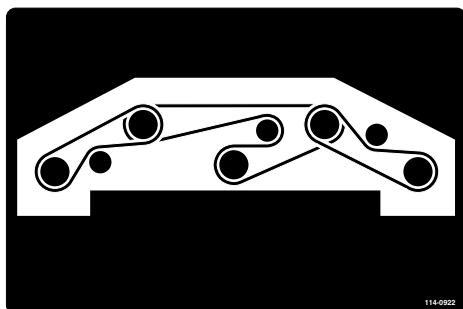

Figure 83
8. Route the new belt around the spindle pulleys and idler-pulley assembly (Figure 83).